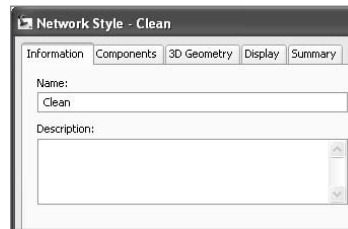

Figure A.10
5. Type **Clean** in the Name field, as shown in Figure A.10.